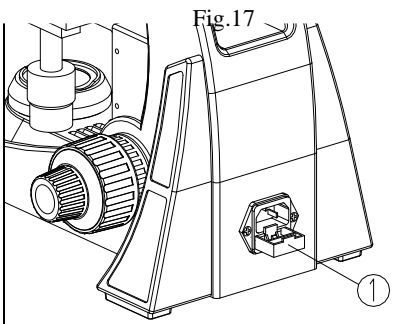

Fig.18
Turn the main switch to "O" (OFF) before replacing the fuse. Pull out the power cord. Pull the fuse base (1) until the fuse can be take out from the fuse base. Install a new fuse and push it in the fuse base thoroughly (See Fig. 18).